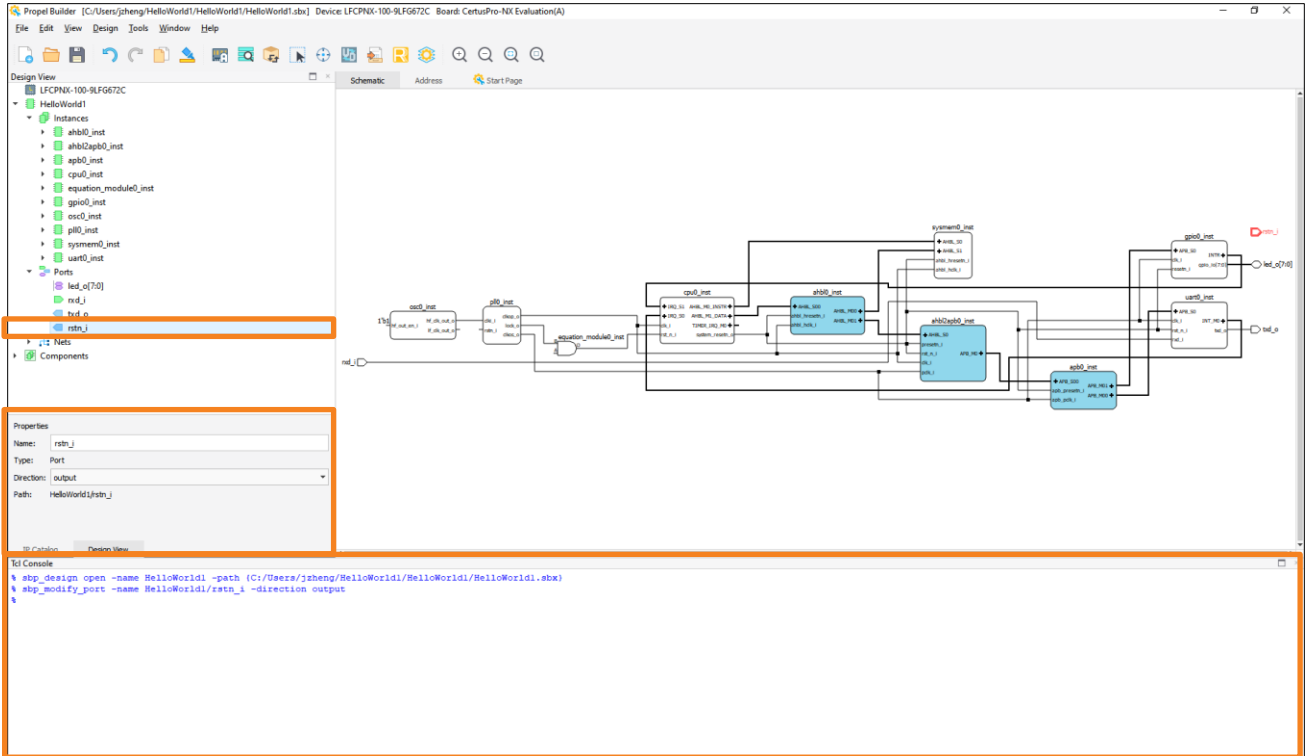

Figure 2.72. Port Direction
- b. Port direction can be modified. You can use the drop-down menu to choose the desired port direction. TCL command is shown in **Design View**. (Figure 2.72).
Note: Port width can only be modified if it is already multi-bit. An error message is prompted out or shown in TCL console, if the input value does not meet rules (Figure 2.72).